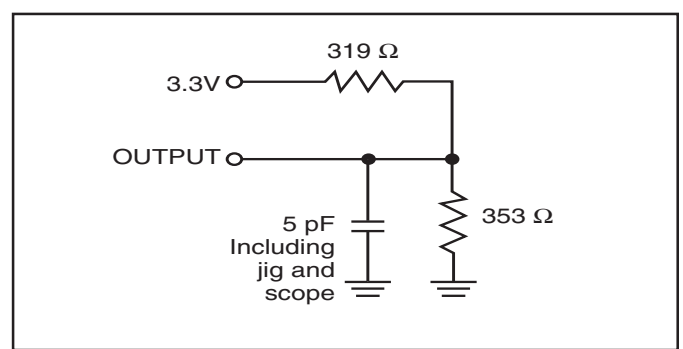

Figure 2.
2. Tested with the load in Figure 2. Transition is measured ±500 mV from steady-state voltage. Not 100% tested.
3. Tested with the load in Figure 2. Transition is measured ±500 mV from steady-state voltage. Not 100% tested.